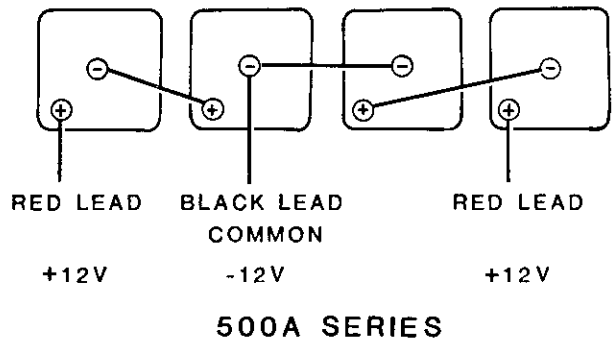

Fig. 18 — Transmitter Battery Hookup
(1) For access to the transmitter battery compartment, take the receiver out of the transmitter. The batteries are located in the bottom of the carrying case, beneath a plastic storage tray. Remove the four screw fasteners and lift the storage tray out. Remove the battery cover clamp and cover.
(2) Disconnect each battery, lift from case and replace with a fresh battery. Place new batteries in the same position as the old batteries. Attach the wiring as indicated in Fig. 18.